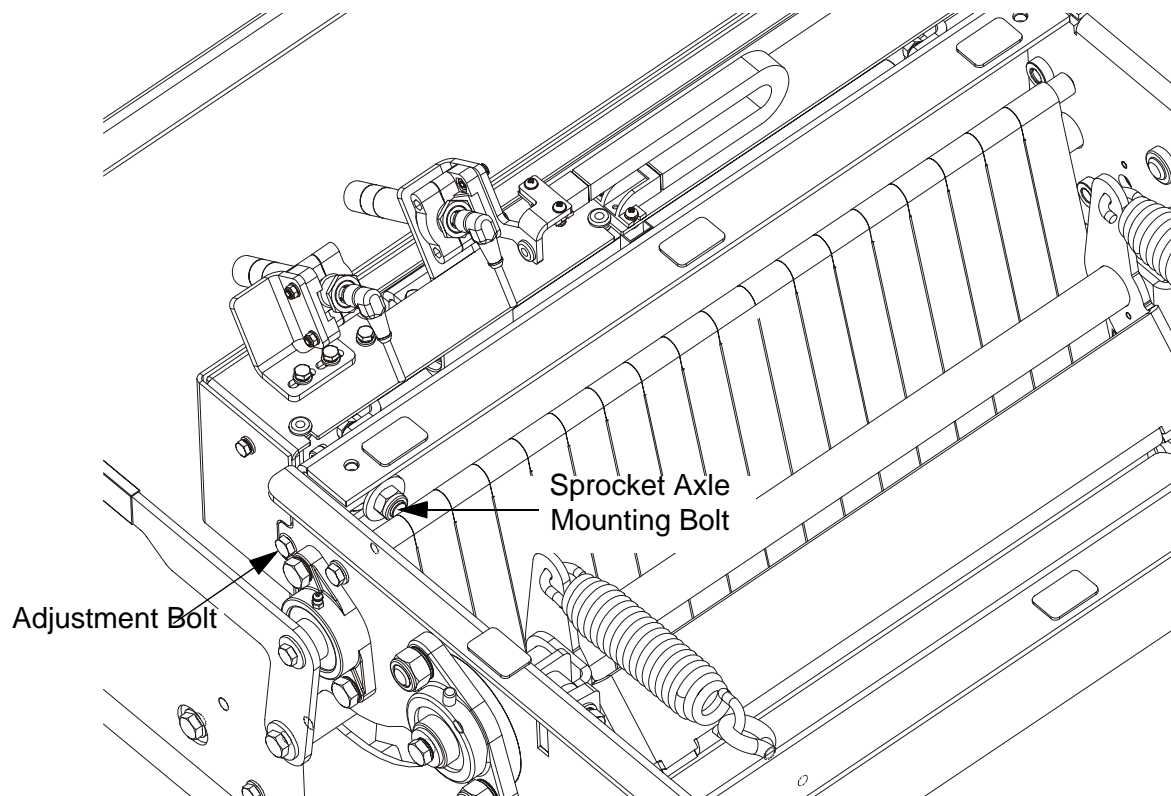

FIG. 5-6
**See Figure 5-6.** To tension the laser positioning chain, unbolt and remove the blade housing cover. Loosen the sprocket axle mounting bolt. Using adjustment bolt, tension the chain. After that, tighten the sprocket axle mounting bolt.